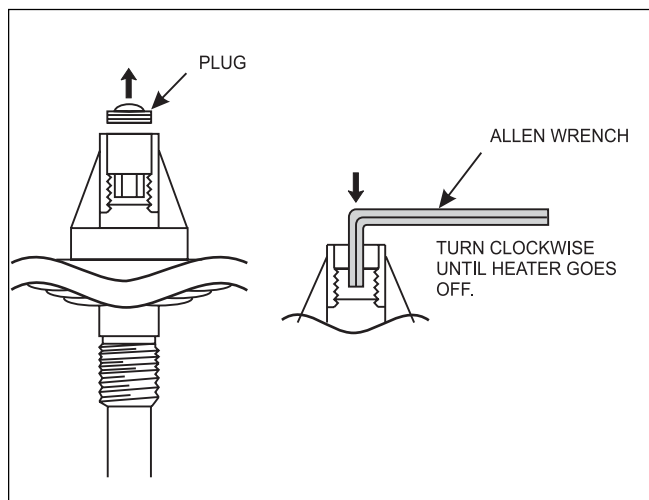

Figure 20. Pressure Switch Adjustment
6. Use a 7/32 inch (5.55 mm) Allen wrench to turn the adjustment screw very slowly clockwise until the heater goes off (see Figure 20).